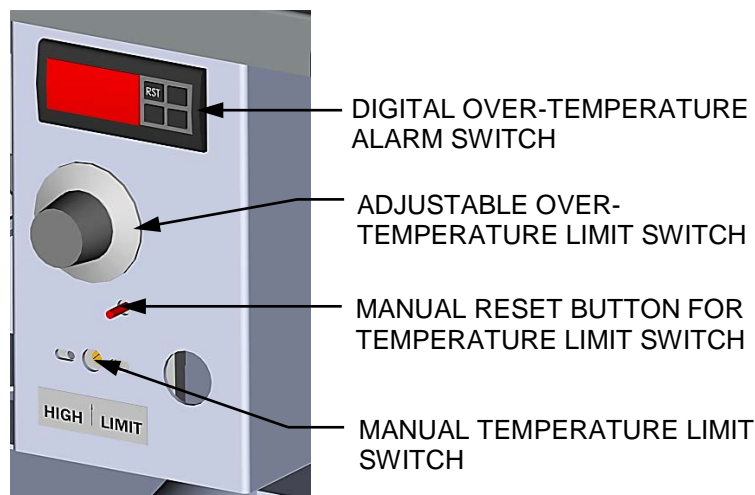

Figure 4-5: Over-Temperature Limit Switch Locations
The unit contains three (3) types of over-temperature limit controls. These controls consist of a Manual Reset button, a rotary adjustable Temperature Limit switch and a digital Over-Temperature Alarm switch. These controls are mounted on a plate as shown in Figure 4-5. They can be accessed by opening the front panel door of the unit.
The Manual Reset button is not adjustable and is permanently fixed at 210°F (98.9°C). This button will shut down and lock out the boiler if the water temperature **exceeds 210°F (98.9°C)**. Following an over-temperature condition, it must be manually reset by pressing the **Manual Reset** button shown in Figure 4-5 before the boiler can be restarted.
The digital Over-Temperature Alarm switch shown in Figures 4-5 and 4-6 is preset at the factory to 210°F (98.9°C) and should not be changed. If an over-temperature condition is detected, this switch automatically shuts down the boiler and sounds an audible alarm. If desired, the Over-Temperature Alarm can be checked or adjusted using the procedure in section 4.5.1.